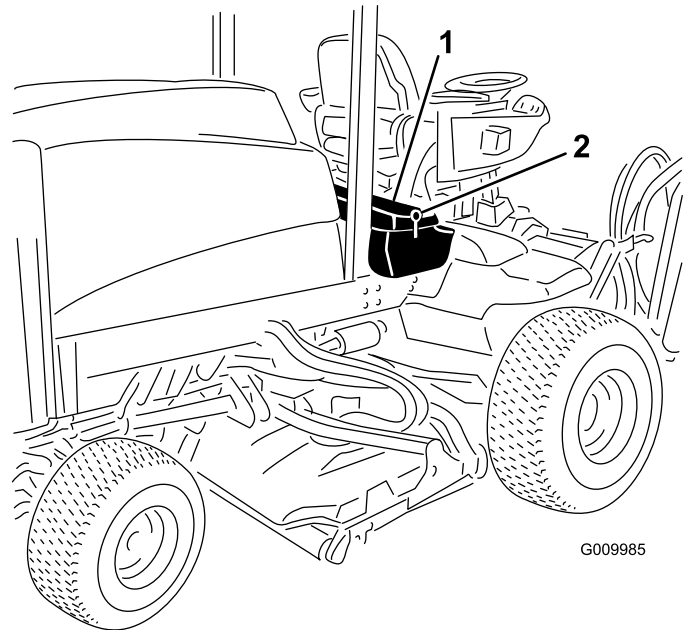
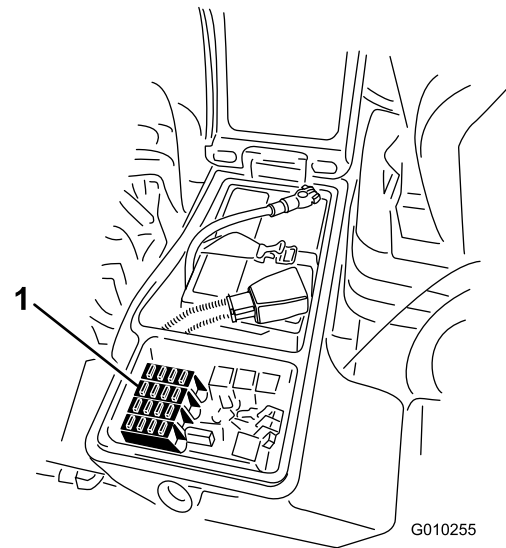

Figure 94
Figure 95
- Replace the open fuse(s) as needed (Figure 95).
- Close the cover of the right storage box and secure the cover with the latch (Figure 94).
- Loosen the latch for the cover of the right storage box and raise the cover (Figure 94) to expose the fuse block (Figure 95).